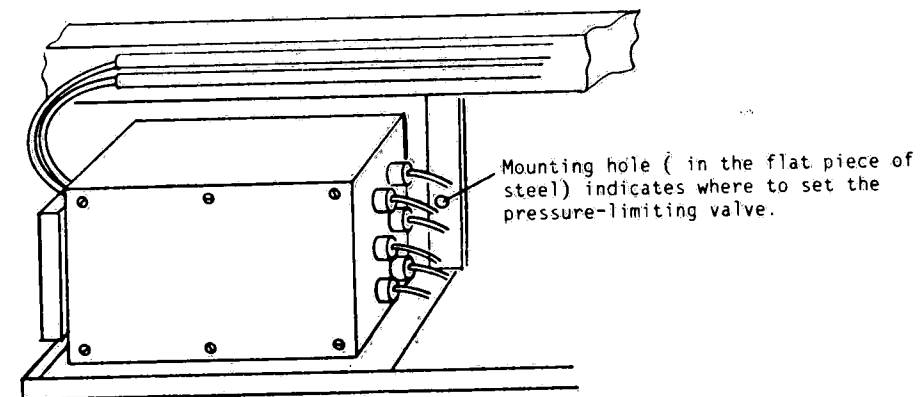

Figure 3-2. ADJUSTING PRESSURE LIMITING VALVE.
- (i) Adjust pressure limiting valve (see Figure 3-2).
- (4) Check filter: